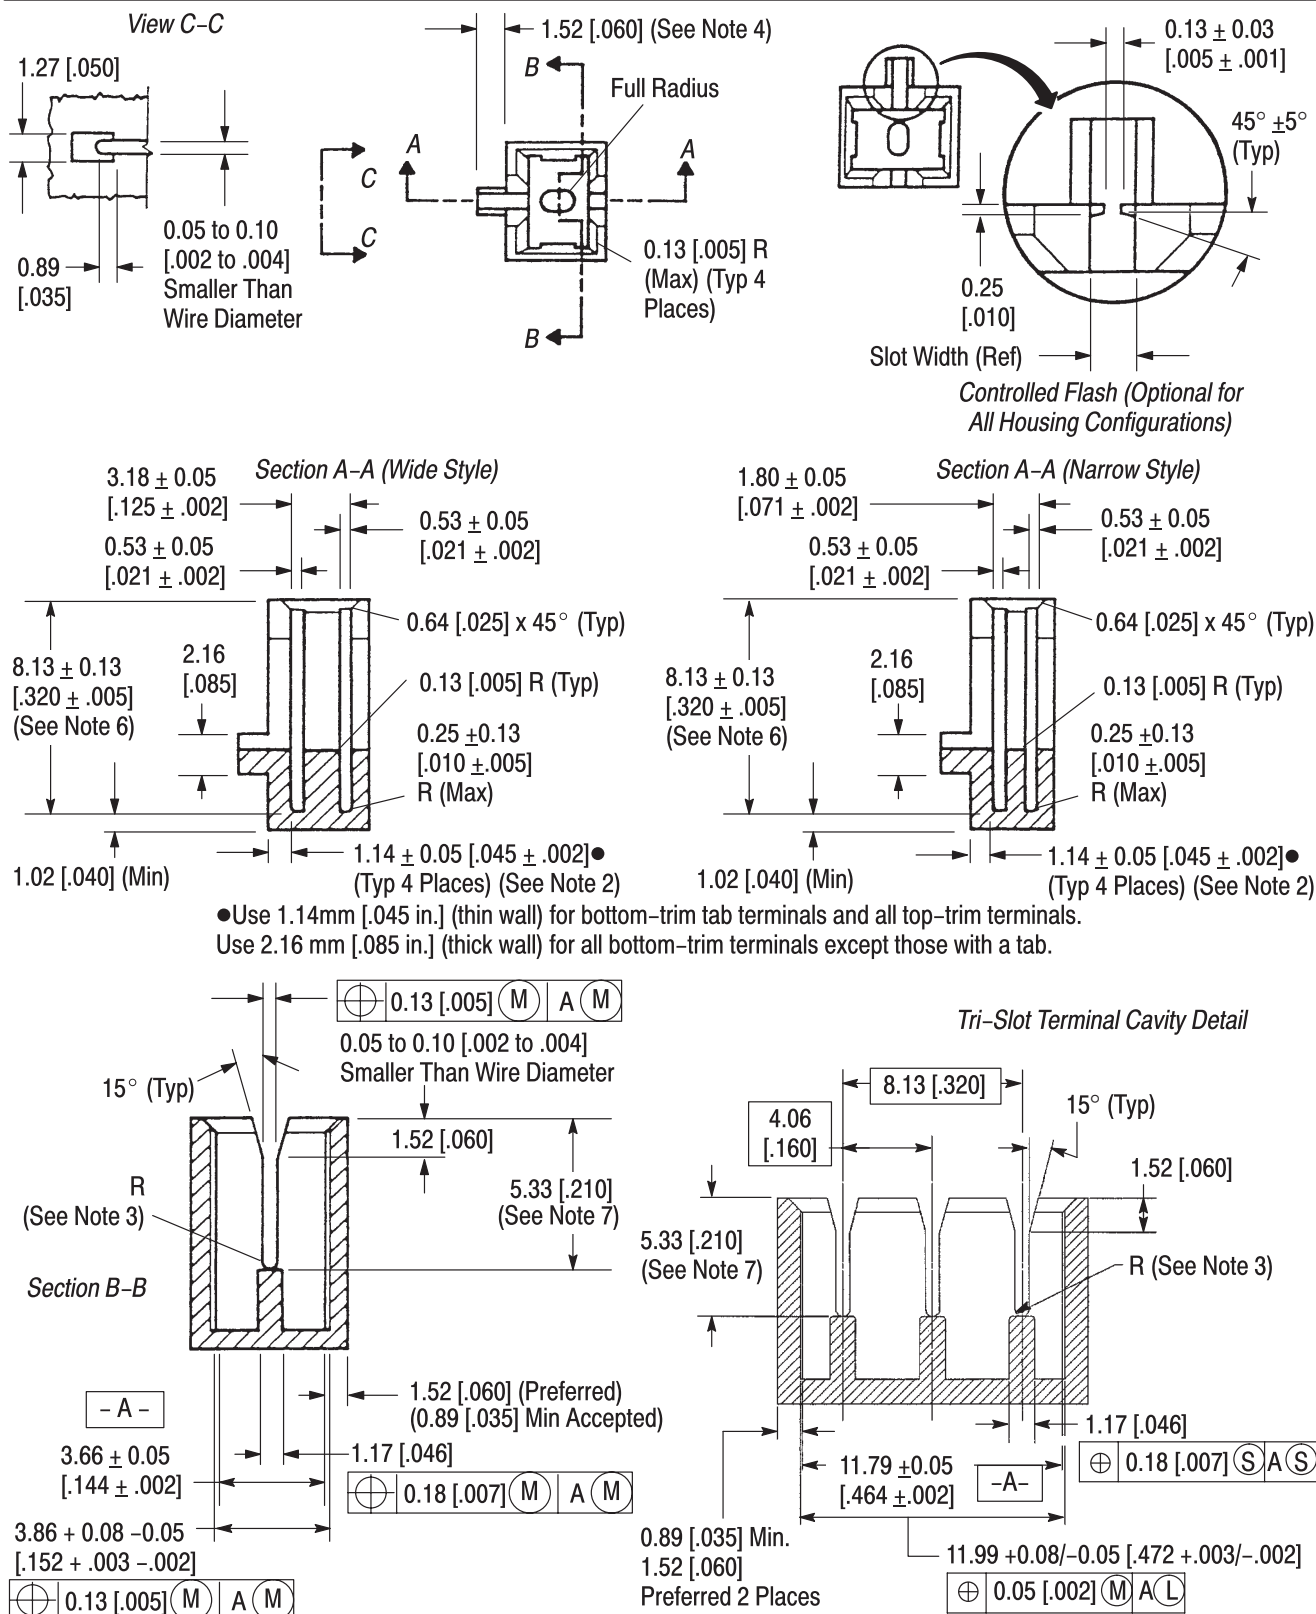
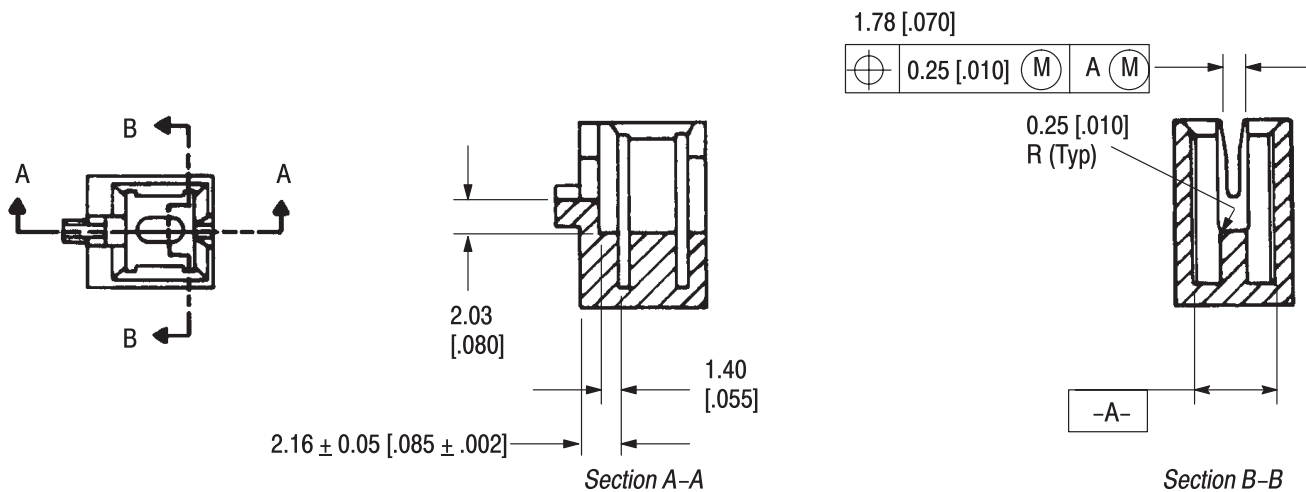
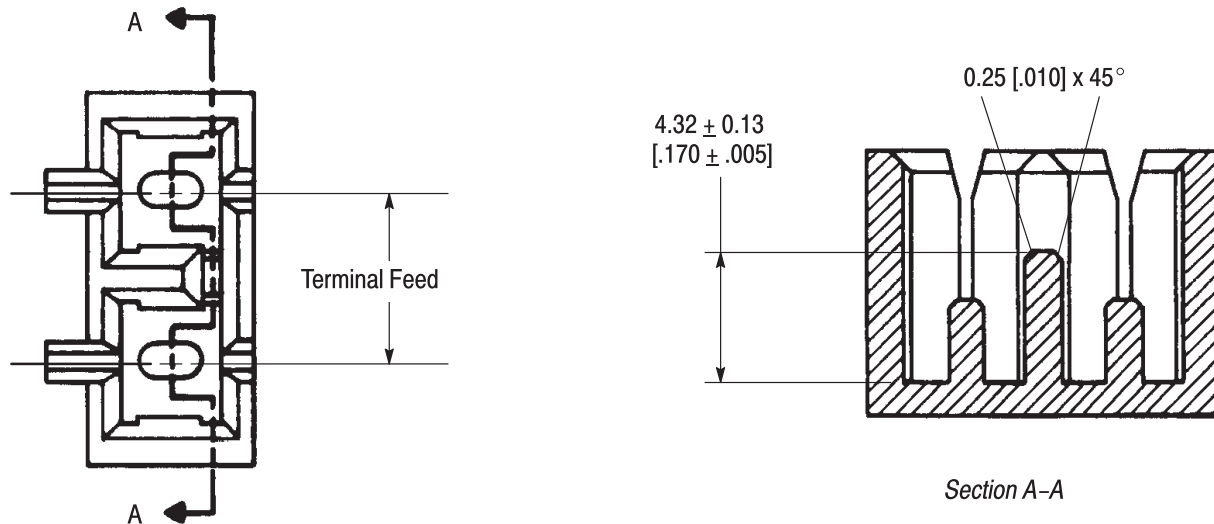

Figure 3
Figure 4
Figure 5
- Changed dimension for (Section A–A Narrow Style) in Figure 3
The external design of the housing will depend on your requirements. Internal cavity designs must conform to the dimensions provided in Figures 3, 4, or 5. Pre-design consultation with Tyco Electronics Engineering is necessary to be sure the cavity configuration will be functional and that it will be compatible with automatic insertion machines.
The following Notes apply to the housings shown in Figure 3:
- (1) Housings must be glass-filled polyester material or approved equivalent.
- (2) The wire trim side of the housing shall have an even thickness to prevent damage to the housing when trimming excess wire.
- (3) Coil windings and other components must not extend above the wire slot or otherwise obstruct seating of the terminal or wire.
- (4) The housing must have a wire trim support if automatic machine insertion is used. It is not necessary for the housing to have a wire trim support if inserting the wire with a hand insertion tool.
- (5) The wire slot may have a controlled flash to provide retention and stability for a broad range of wire sizes.
- (6) For poke-in wire applications: depth of beam slots may be increased to conform with electrical spacing requirements, and strain relief for wire is recommended.
- (7) The given dimension is for a single wire application. The dimension may change for double wire application, in which case, see Customer Drawing of terminal.
- (8) Controlled flash may be used at wire end. See CONTROLLED FLASH detail, Figure 3.
- (9) Features that include draft must maintain the dimension and tolerance over the entire length of that feature.
This housing design has a wire support above the anvil that allows the wire to be cut before the terminal is fully seated. As the terminal is seated, it pulls the wire end down and conceals it in the pocket behind the wire support. All the dimensions given for the exposed wire end cavity in Figure 3 apply, except for those that appear in Figure 4.
Multiple cavity housings can be made with exposed or concealed wire ends and wire slots with or without controlled flash as defined by the dimensions in Figures 3 and 4. They can also be made to accommodate commoned terminals by using a shorter wall between cavities. See Figure 5.